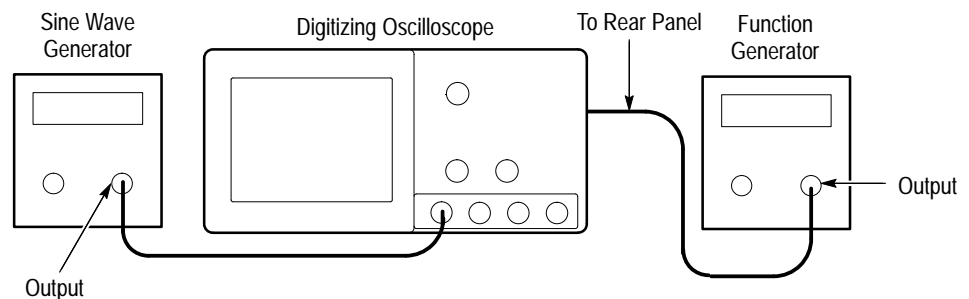

Figure 1–20: Initial Test Hookup
- Move the setup from the **CH 1** input to the **AUX TRIGGER/EXT CLOCK** input on the rear panel of the oscilloscope (see Figure 1–20).